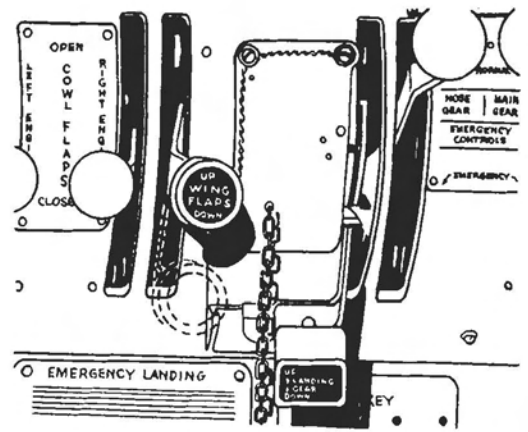

Figure 57 — Wing Flaps and Landing Gear Levers
- (1) Counteract yaw with full opposite rudder and bank about 5 degrees toward operating engine.
- (2) Feather the windmilling propeller.
- (3) Reset rudder tab.
- (4) Make sure the landing gear is up.
- (5) Retract wing flaps as soon as possible, but slowly to prevent sinking.
- (6) If possible, close cowl flaps and oil cooler shutters on the dead engine.
- (7) Do not attempt turns or banks toward the dead engine unless absolutely necessary—then only at highest speeds.
- (8) Execute a single engine landing as soon as possible.
a. Pull landing gear lever "UP" to retract gear upon advice from pilot. When indicator shows full retraction, return lever to "NEUTRAL." (See figure 57.)
b. Pull wing flap lever "UP" to retract wing flaps after obtaining 500-foot altitude. When indicator shows full retraction, return lever to "NEUTRAL." Wing flaps should be retracted before reaching 185 mph. (See figure 57.)